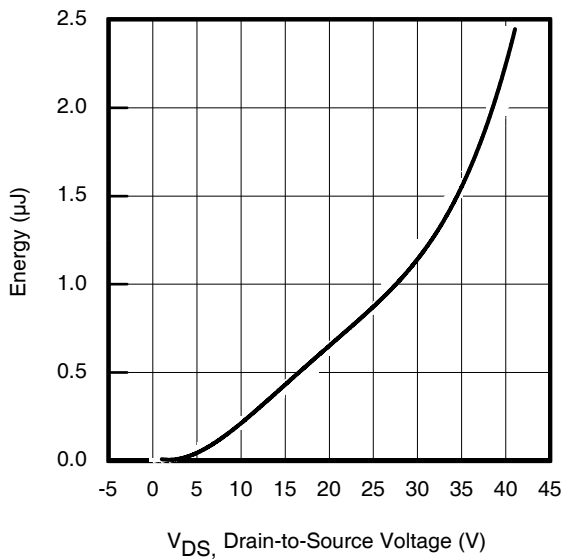

Fig 11. Typical C_{OSS} Stored Energy
| $C_{oss \text{ eff. (ER)}}$ | Effective Output Capacitance (Energy Related) | — | 2520 | — | | $V_{GS} = 0V, V_{DS} = 0V$ to $32V$ ⑦, See Fig. 11 |